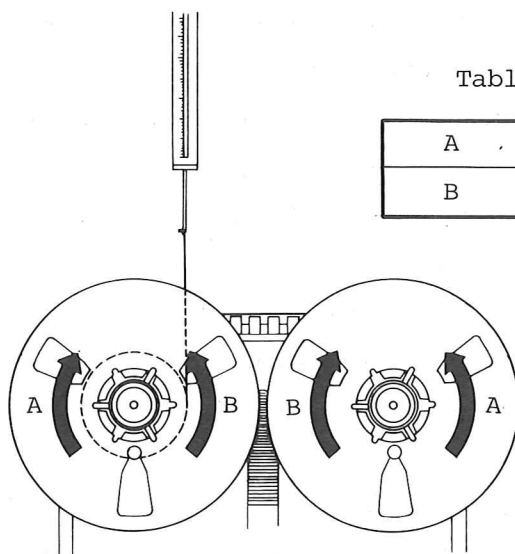

Fig. 3-2 Brake Measurement
3. Insert the hook of a 0-16 ounce or 0-32 ounce spring scale through the loop and hold the spring scale upright as shown in Fig. 3-2.
4. Pull on the scale slowly to make the reel rotate counterclockwise (direction "B" in Fig. 3-2). While being sure the cord does not rub against either flange, note the scale reading. The reading should be 7.9 to 9.7 ounces (225 to 275 grams).
6. Repeat steps 3 and 4 to make the reel rotate clockwise (direction "A" in Fig. 3-2). The reading should be 3.6 to 4.5 ounces (100 to 125 grams).